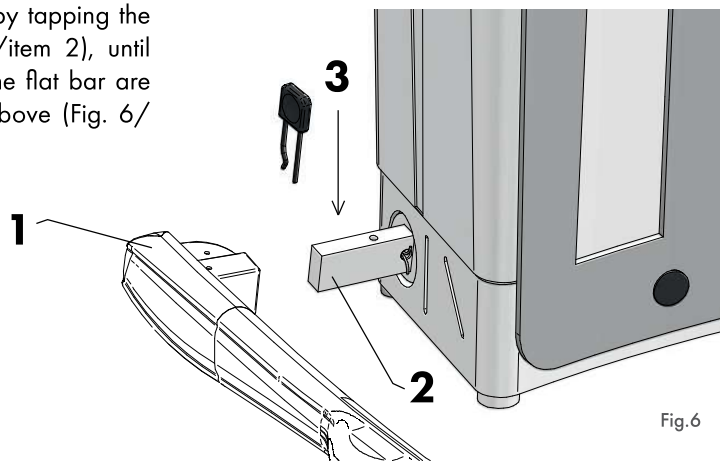

Fig.6
Install the lever (Fig. 6/item 1) by tapping the lever on the connector (Fig. 6/item 2), until the holes on the lever and on the flat bar are aligned. Slide the pin in from above (Fig. 6/item 3).